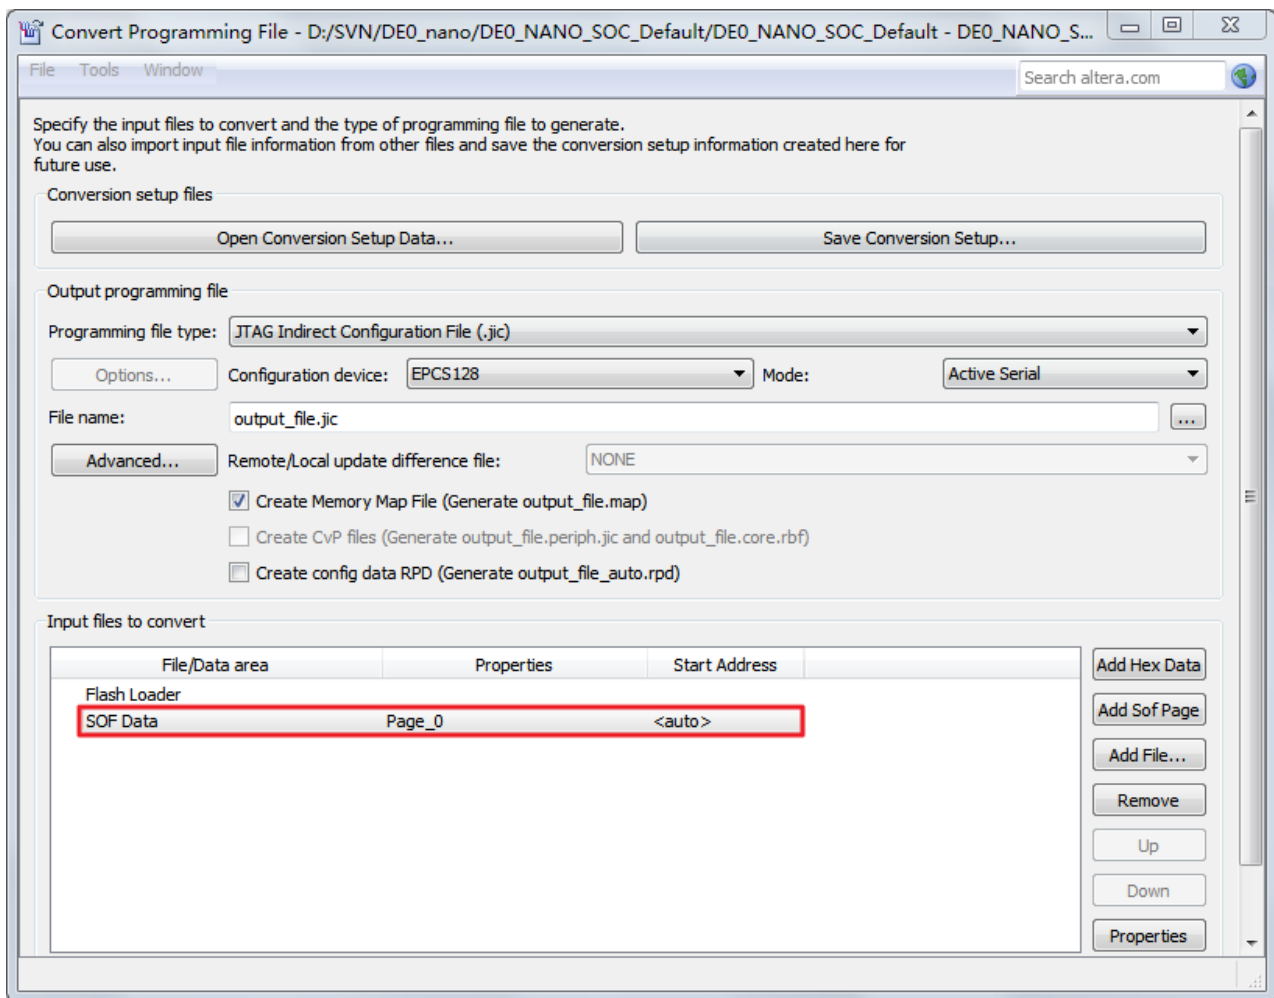

Figure 8-3 Dialog of “Convert Programming Files”
6. Click on the **SOF data** in the section of **Input files to convert**, as shown in **Figure 8-3**.